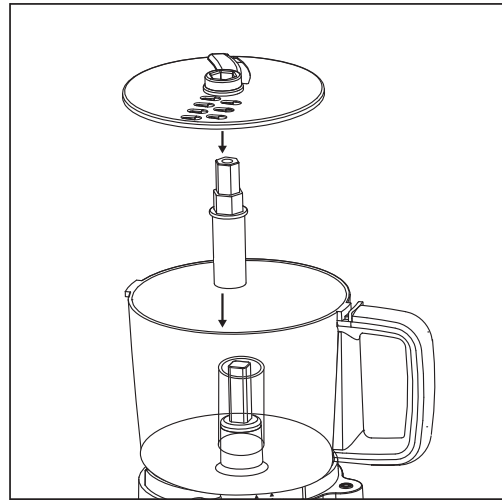

Figure 5
- 2 Slide the disc stem onto the center post of the base. With the desired side facing up (slicing or shredding), push the slice/shred disc onto disc stem (Figure 5). Use caution when handling, blades are extremely sharp.